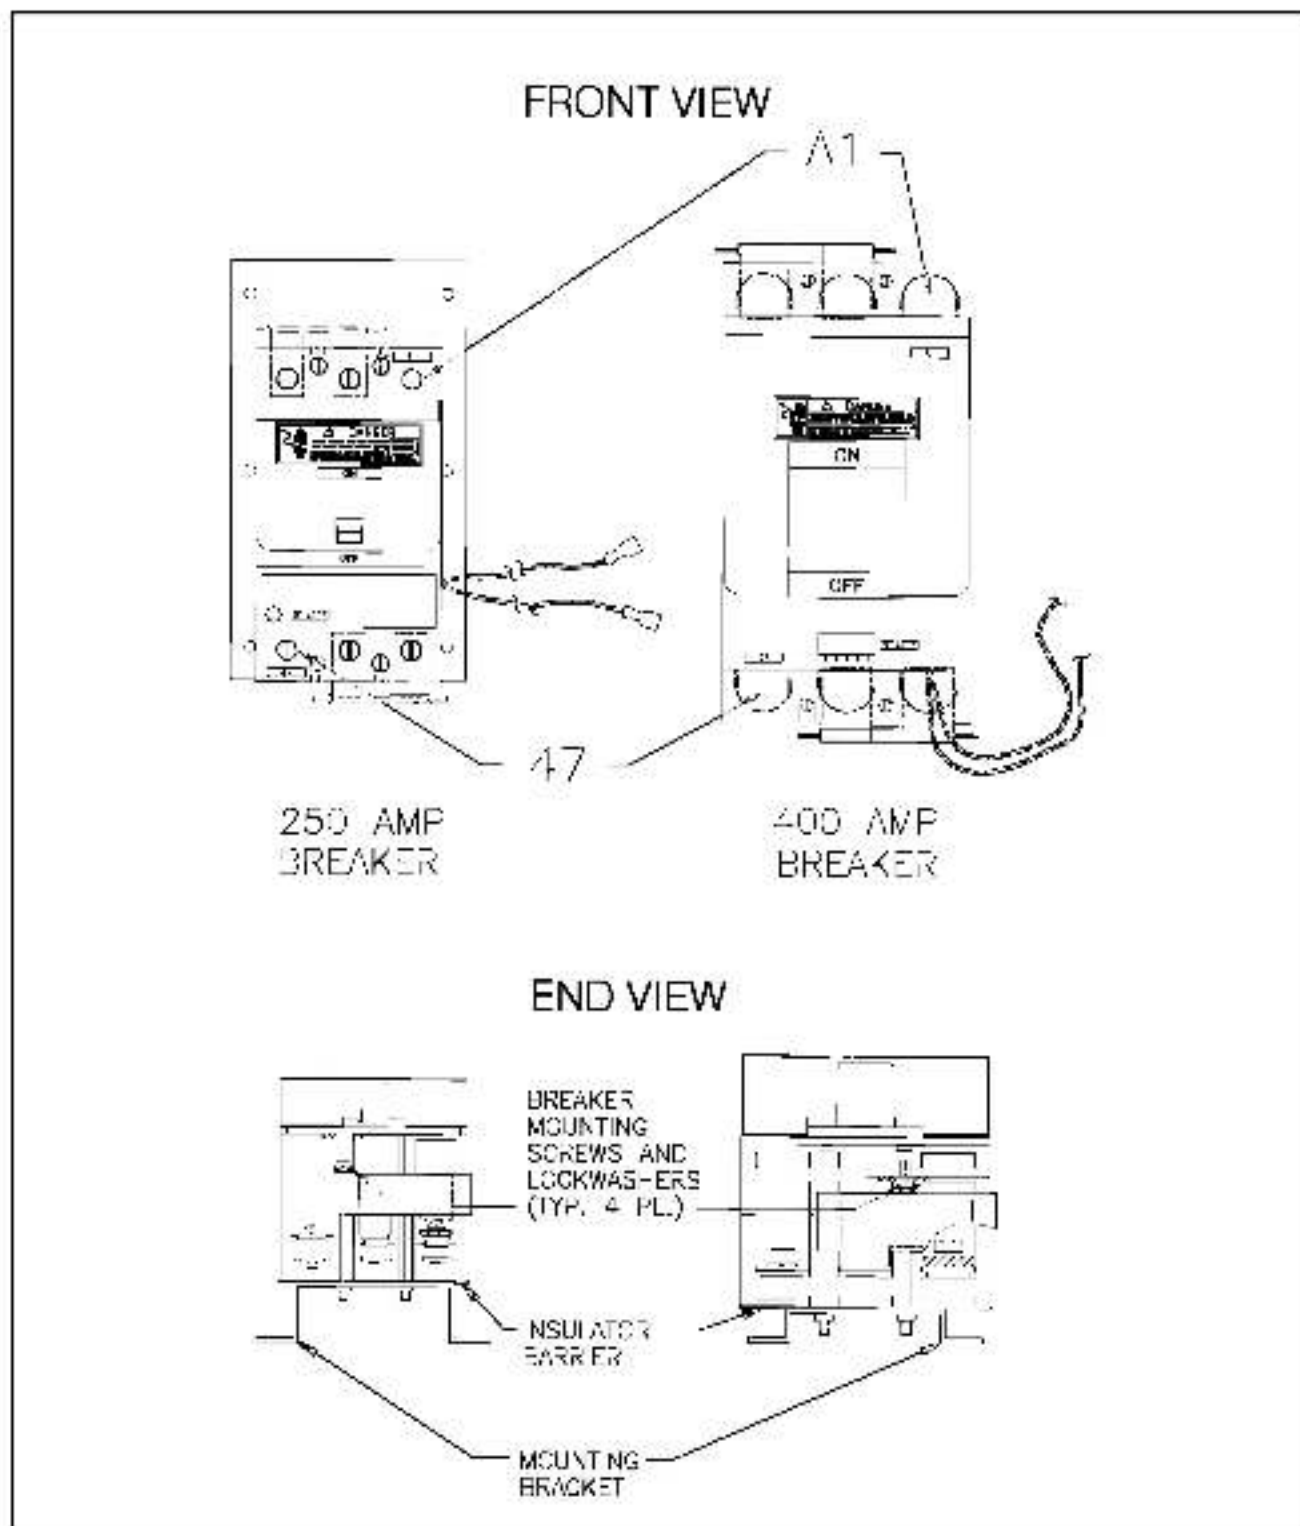
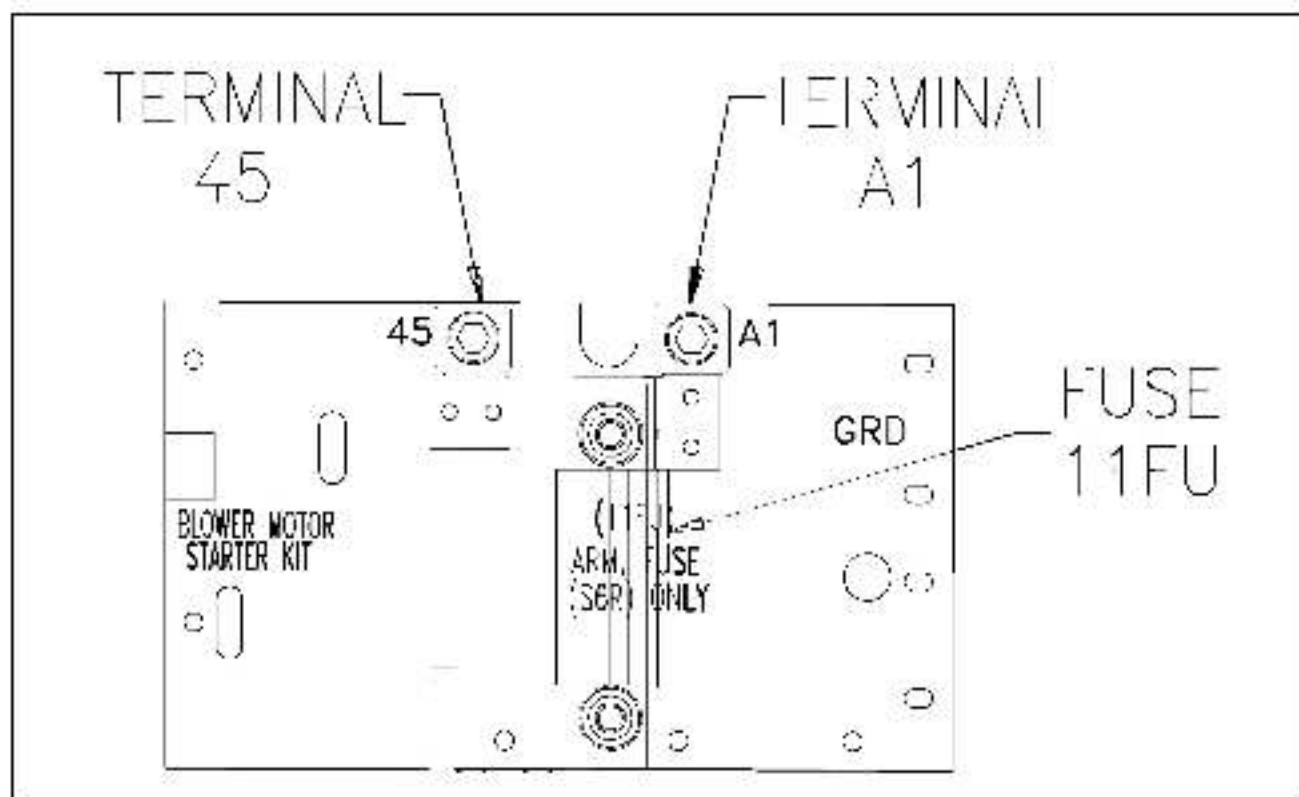

Figure 2 – Inverting Fault Circuit Breaker Mounting and Terminal Locations
Figure 3 – Drive Motor Terminals
- Step 7. Refer to Figure 2. Mount the circuit breaker assembly [Item 1] and the insulating barrier [Item 4] on the mounting bracket with the four (4) M5 or M6 screws [Item 5] and washers [Item 6] provided with the kit.
- Step 1. Route, but do not connect, motor armature lead A1 to Inverting Fault Circuit Breaker terminal A1. See Figure 2 for the location of the breaker's A1 terminal. Terminate the breaker side of the lead with a lug of the appropriate gauge, but do not connect the lug to breaker terminal A1. The inside lug diameter should accept a 1/4" stud for the 250 A breaker or a 3/8" stud for the 400 A breaker.
- Step 2. Using wire of the same gauge as the motor leads, connect Inverting Fault Circuit Breaker terminal 47 (see Figure 2 for location) to drive motor terminal A1 (see Figure 3 for location). Terminate the breaker side of the wire with a lug of the appropriate gauge. The inside lug diameter should accept a 1/4" stud for the 250 A breaker or a 3/8" stud for the 400 A breaker.
- Step 3. Connect motor armature lead A2 to drive terminal 45 (see Figure 3 for location).
If the motor series field is used: Connect motor armature lead A2 to motor field lead S1. Then connect motor field lead S2 to drive terminal 45 (see Figure 3 for location).
- Step 3. Connect the spade connectors of the twisted pair harness [Item 10] to the male connectors on the yellow and the blue/yellow striped leads coming out of the Inverting Fault Circuit Breaker (see Figure 2). Route this harness down to the bottom of the drive. Cut the wires to length as required, and connect them to terminals 9 and 11 on the regulator control terminal strip. See Figure 5.